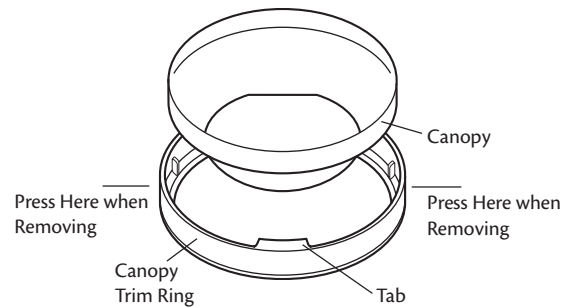

Figure 16 - Canopy trim ring
- To easily install the canopy trim ring, locate the two tabs on the canopy trim ring. See Figure 16.
- Take both hands and push the canopy trim ring up to the top of the canopy. See Figure 16.